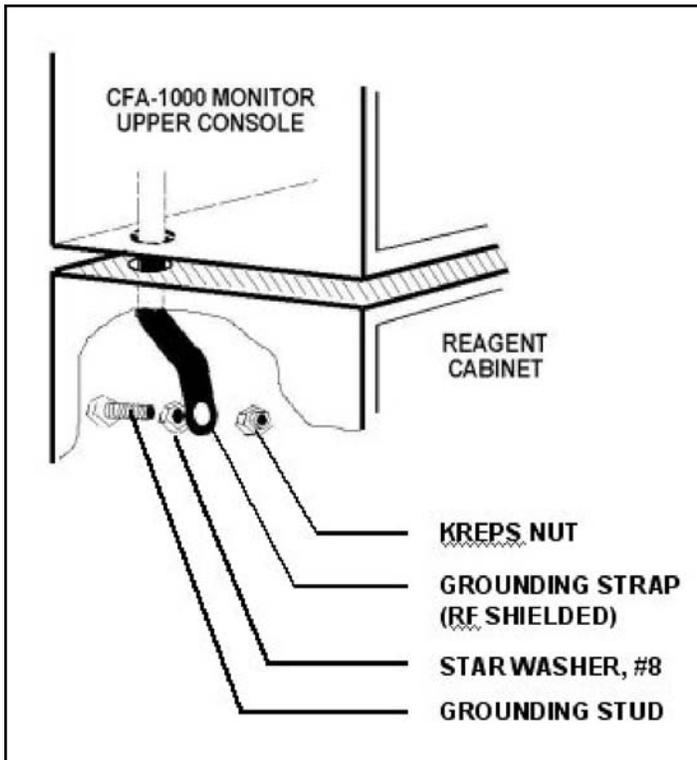

Figure 2-3. Attaching Grounding Strap
4. Feed grounding strap on bottom of main cabinet through notched hole in left rear corner and attach it to stud on back of reagent cabinet (see Figure 2-3).